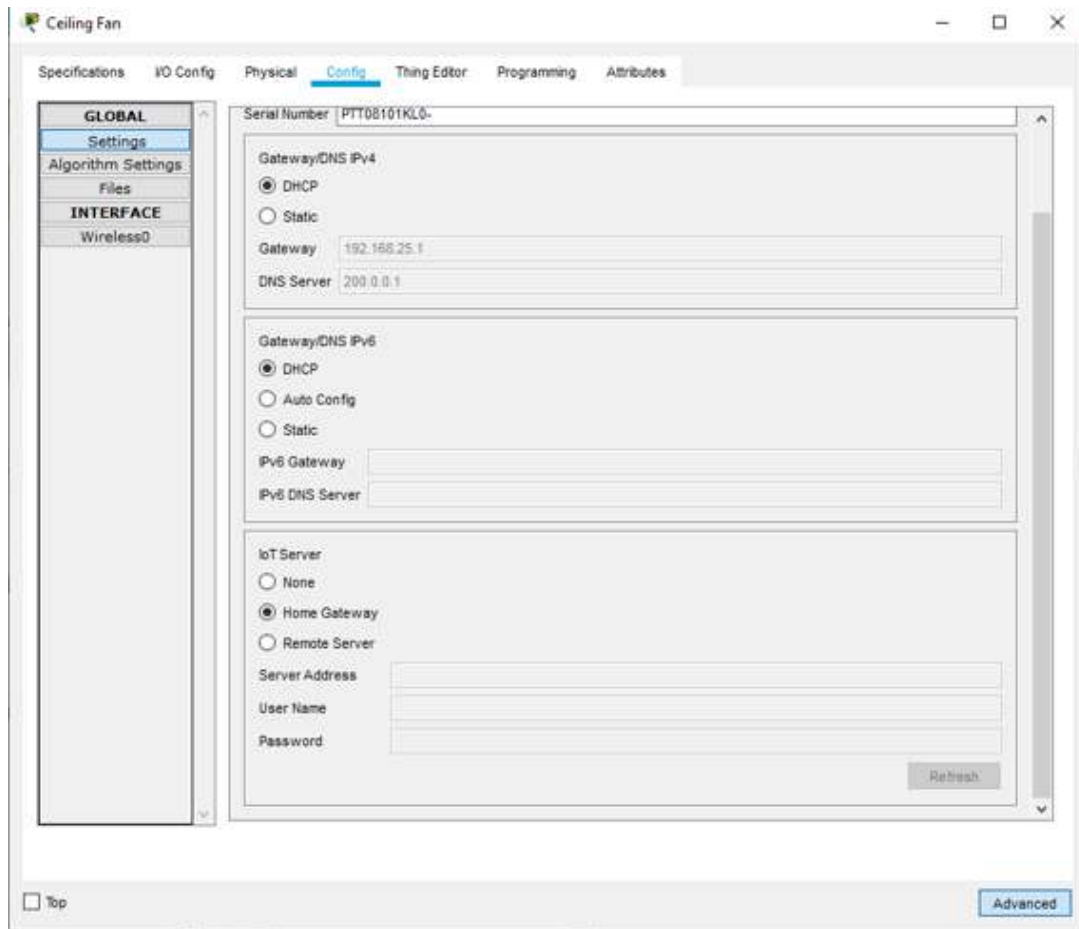

Figure 8.11: Registering the Ceiling Fan with the Home Gateway
- Change the *IoT Server* selection to **Home Gateway**. This action associates the fan with the local gateway's IoT management interface (see Figure 8.11).